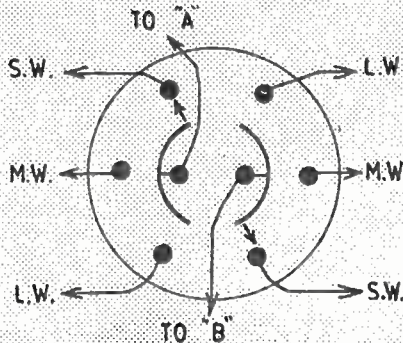

Fig. 3—How to add switching
It is quite easy to move the two clips, to change from one waveband to another. But if this is not required, a small rotary switch can be mounted on the panel to the left of the tuning dial. A 2-pole switch is necessary, one pole switching lead (A) to the various coils, and the other pole being employed for (B). If three bands are required, for Long, Medium, and Short waves, the switch will be wired up as in Fig. 3.
If the L.W. band is not required, a 2-way switch is sufficient. However, rotary switches with any desired number of 'ways' are easily obtainable. For three bands, a 3-way switch is used. Fig. 3 illustrates the switch so positioned that